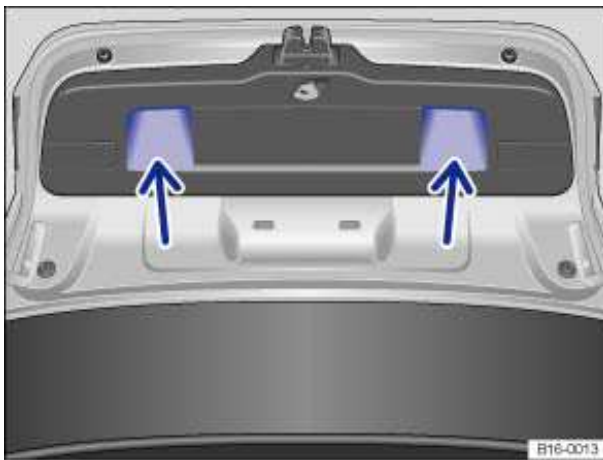

Fig. 44 Opened luggage compartment lid: Recessed grips for closing.
- Grasp one of the recessed grips in the trim of the luggage compartment lid ⇒ fig. 44 (arrows).